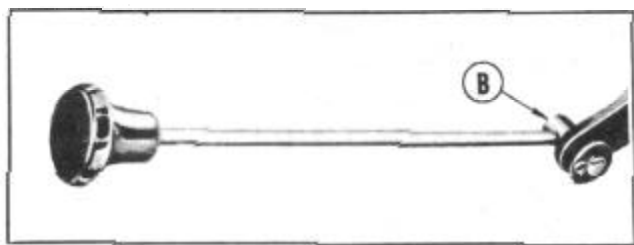
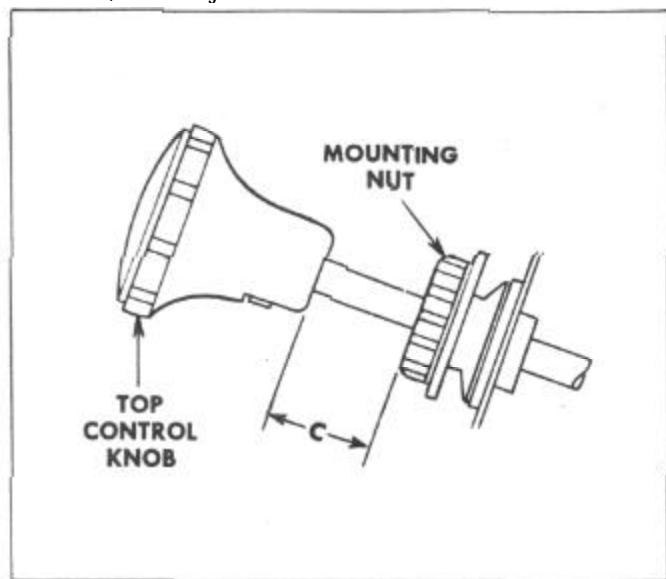

FIGURE 149
FIGURE 150
2. Loosen the retaining screw at (B), Figure 149, adjust the control knob to the clearance as shown at (C), Figure 150. This clearance is 1-3/8" for Models 1948 thru 1950 and 1-3/16" for Models 1951 thru 1954 except 1C, 1D, 2C, 2D and 3D. This adjustment is made with the control valve in the neutral position. Tighten retaining screw (B) securely after adjustment has been made.